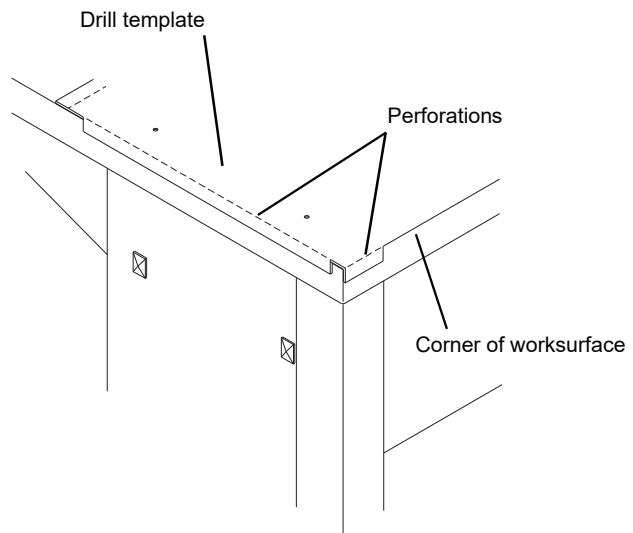

Figure 2
1. Using the cardboard Drill Template provided, drill two $\frac{1}{8}$ " diameter holes approximately $\frac{1}{2}$ " deep into the two corners of the Linx Corner Workstation as shown in figure 2.
Carefully fold the template along perforations and place the template on the corner of the worksurface as shown in figure 2.